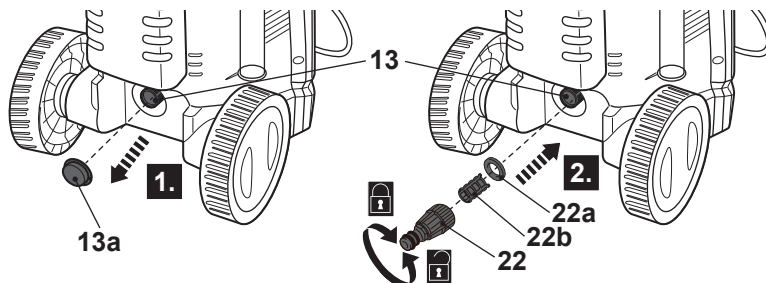

Fig. 3
- > Remove the cap (13a) from the water inlet (13) (Fig. 3, step 1).
- > Screw the water hose connector (22) to the water inlet (13) (Fig. 3, step 2).